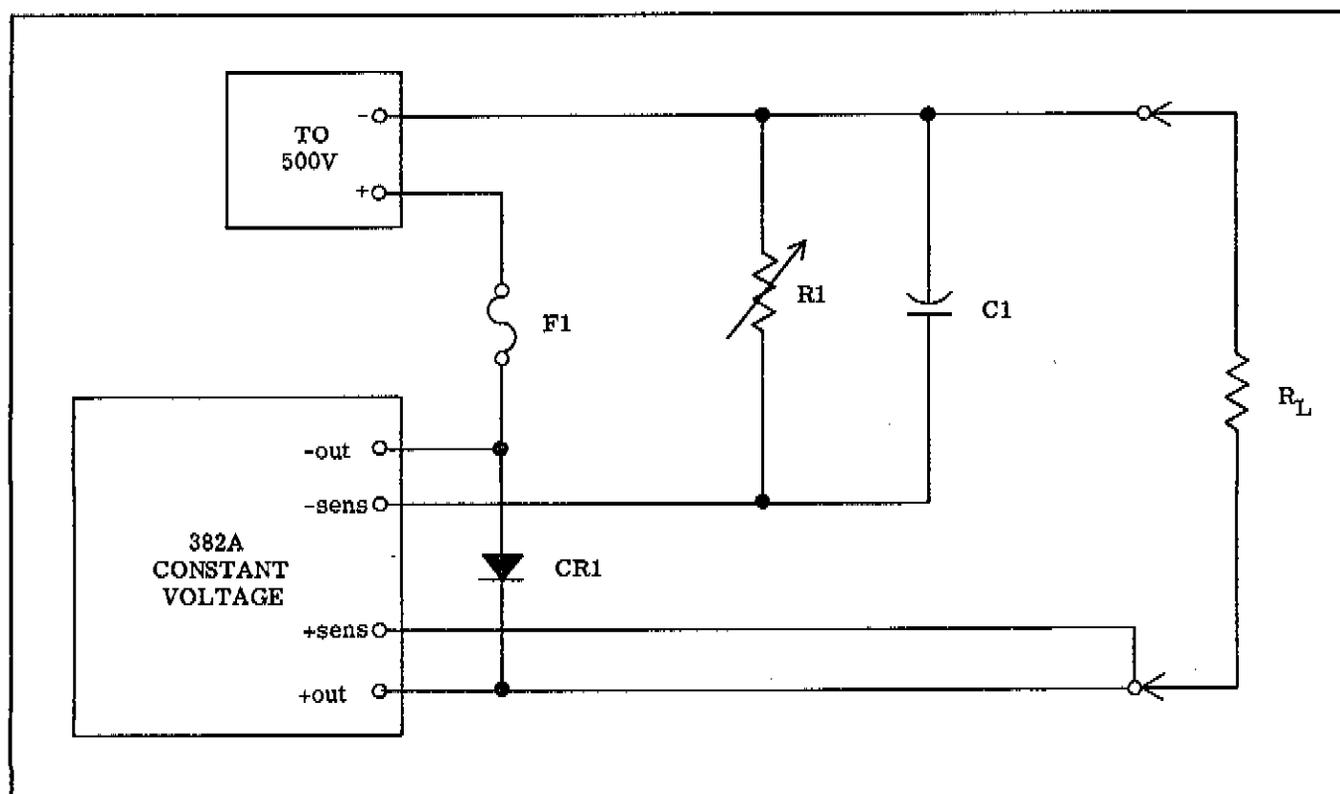

Figure 2-4. AUXILIARY VOLTAGE REGULATOR
a. Connect the 382A and the other power supply as shown in Figure 2-4. Diode CR1 limits the voltage of a reverse polarity which would be applied to the 382A in the event of a short circuit across the load, or when the other instrument is turned on first. Fuse F1 is a protective device which opens the circuit if the load becomes shorted, to prevent applying a continuing reverse voltage to the 382A. The rating of fuse F1 should be equal to, or slightly higher than, the rated full-load current of the other power supply. Diode CR1 must be capable of conducting the maximum short-circuit current of the other power supply until fuse F1 opens the circuit. Resistor R1 is an external voltage control resistor, the value of which must be 1000 ohms per volt of the output of the other power supply. Capacitor C1 provides a path for AC voltages, and should be between 1 uf and 5 uf. The value of C1 may be selected to provide the minimum amount of ripple in the combined output.
c. After the circuit of Figure 2-4 is connected, the 382A is operated in the usual manner. It is usually desirable to set the output voltage of the 382A at its mid-range value. This will provide the maximum range over which the 382A can regulate the combined output voltages.